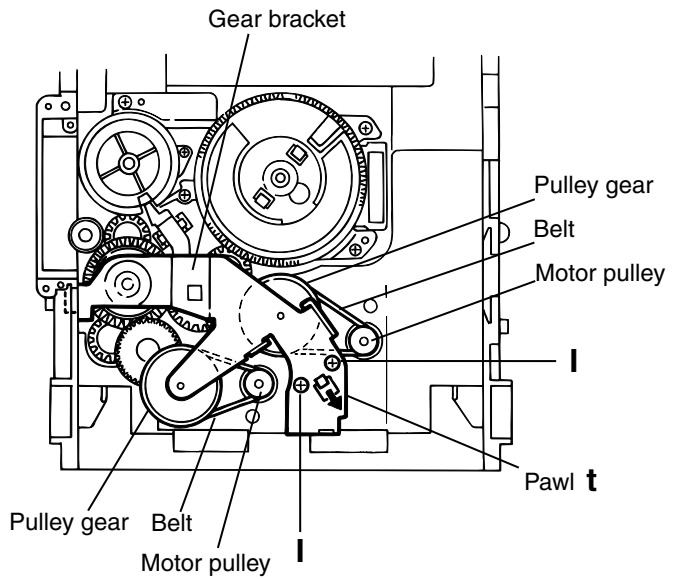

Fig.18
4. While turning the cam gear "q", align the Paul "s" position of the select lever to the notch position(Fig.18) on the cam gear "q".
5. Remove the four screws **H** retaining the cam unit(cam gear "q" and cams R1/R2 assembly)(See Fig.18).
(See Fig.18~21)**
(See Fig.18).
actuator motor pulleys and pulley gears(See Fig. 18).